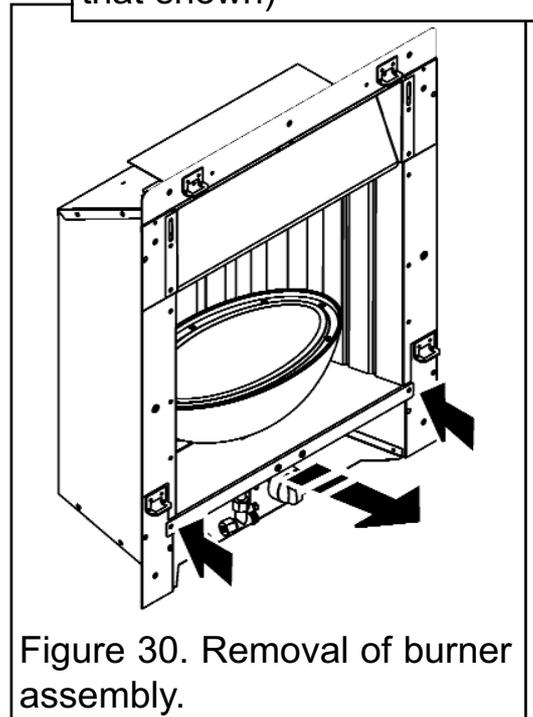

Figure 30. Removal of burner assembly.
4. Remove the two screws to the side of the burner assembly (See figure 30).